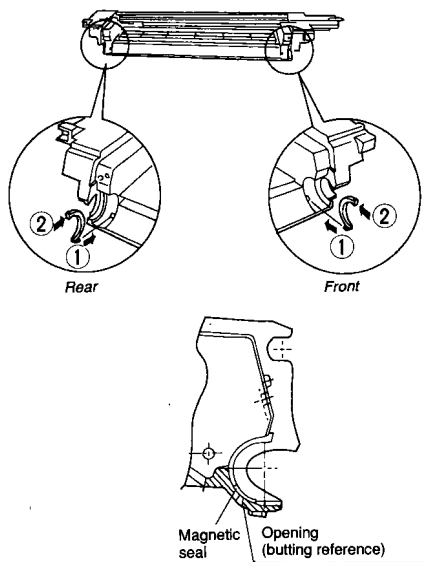

Figure 4-612
- 2) Attach the magnetic seal as shown in Figure 4-612. Make sure the correct seals are used for the front and the rear; they have different shapes. Further, make sure that the magnetic seal is in firm contact with the container.